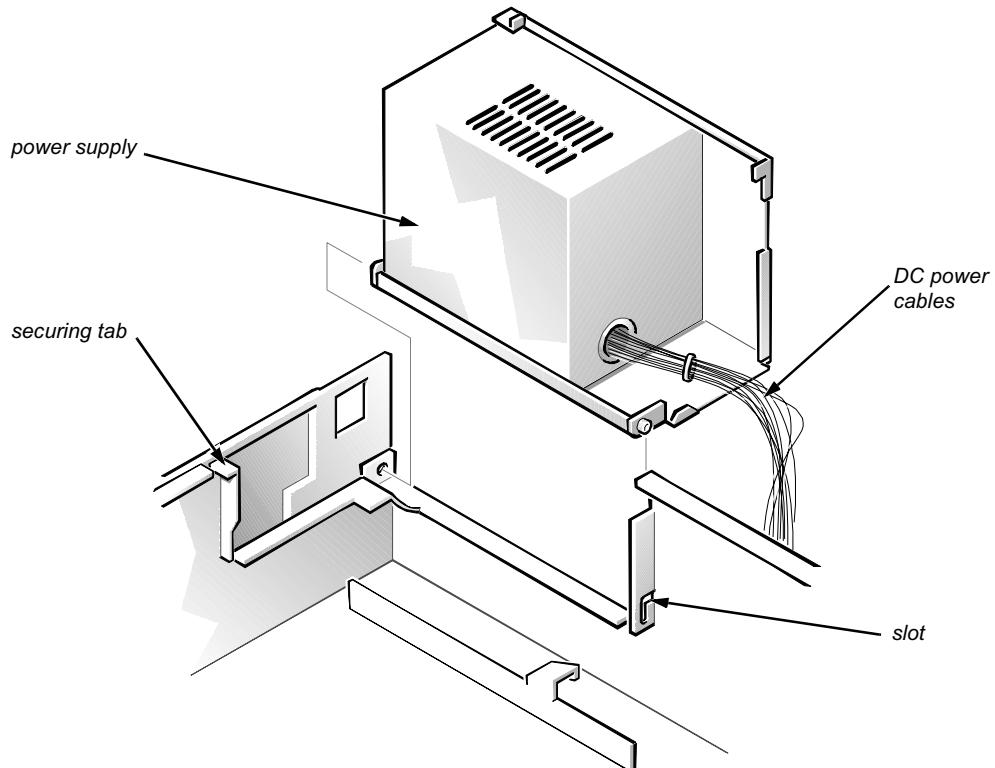

Figure 5-14. System Power-Supply Removal
1. **Unlatch and rotate the power supply to the right (see Figure 5-14).**